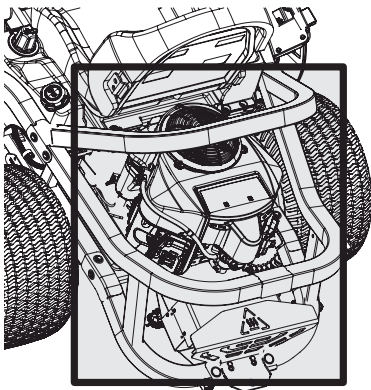

Figure 32
- Keep both sides of transmission cooling slots, exhaust manifold, around fuses, all wiring and harnesses, muffler pipe, muffler shield, engine intake screens and cooling fins, etc. clear of grass clippings and leaves. See Figure 32.